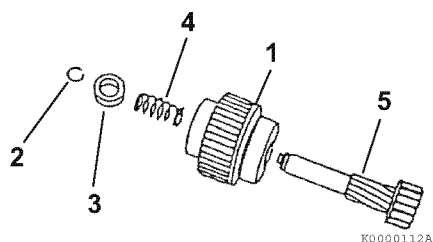

Figure 11-11
12. Disassemble the pinion stop (3, **Figure 11-11**), return spring (4, **Figure 11-11**), pinion clutch assembly (1, **Figure 11-11**), and pinion shaft (5, **Figure 11-11**).